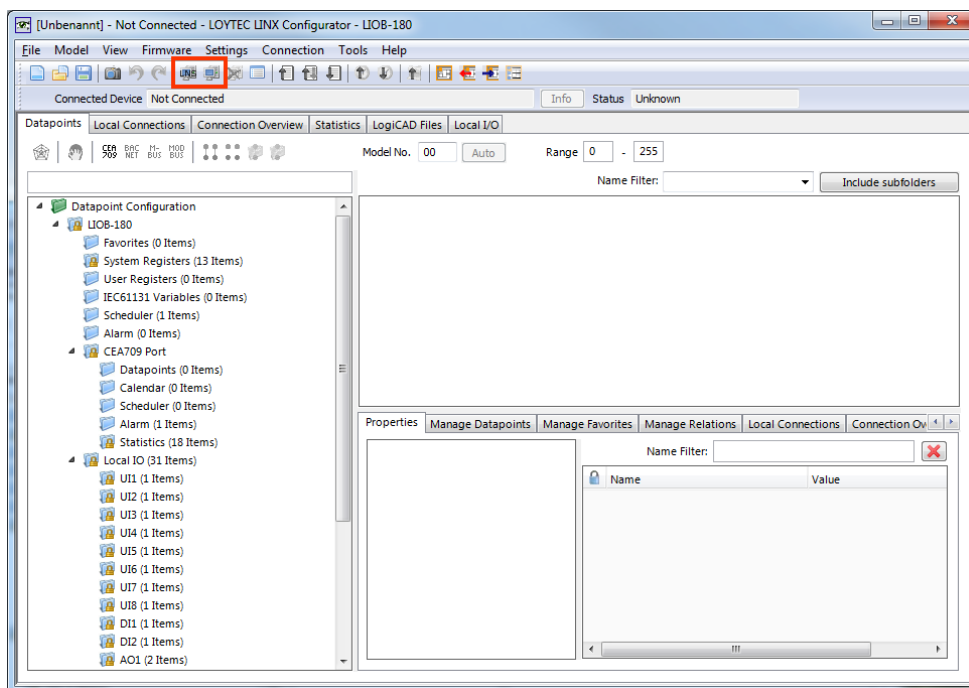

Figure 41: L-INX Configurator main screen
1. Start the L-INX Configurator software by selecting Windows **Start** → **Programs** → **LOYTEC LINX Configurator** → **LOYTEC LINX Configurator**. The application starts up and displays the data point manager screen as shown in Figure 41.
2. When the device is online, connect to the device by clicking on the LNS or device connect speed button as indicated by the red rectangle in Figure 41.